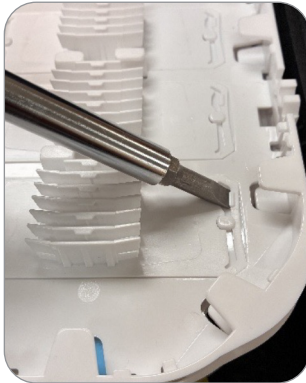

Figure 25
1. To remove a splice module, disengage the locking tabs on the sides with a slotted screwdriver, and slide module to release the latches. (Figure 25)